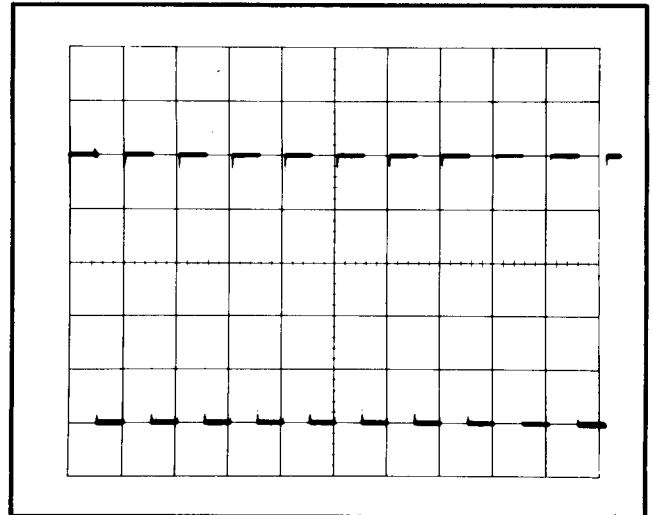

Fig. 5-2. Typical CRT display when checking amplifier gain.
d. CHECK—Display amplitude is five divisions, $\pm 2\%$ (see Fig. 5-2). Adjust positioning as required.